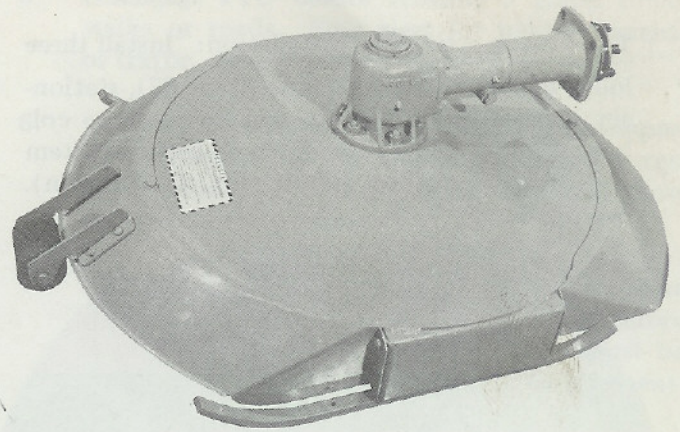

fig. 4
3. Set the drive on the deck. Bolt the drive in place using the 6 bolts (item 5), flat washers (item 6), lockwashers (item 28) and nuts (item 29). The bolts must be inserted from under the deck. See fig. 4.